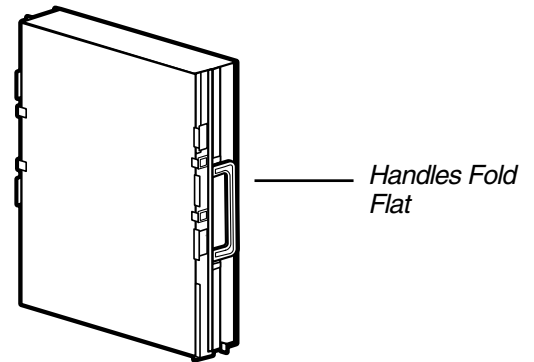

Figure 34
- Reinstall the COLLECTION CELLS into the air cleaner. Ensure the handles on both of the COLLECTION CELLS are folded flat as shown in Figure 34.